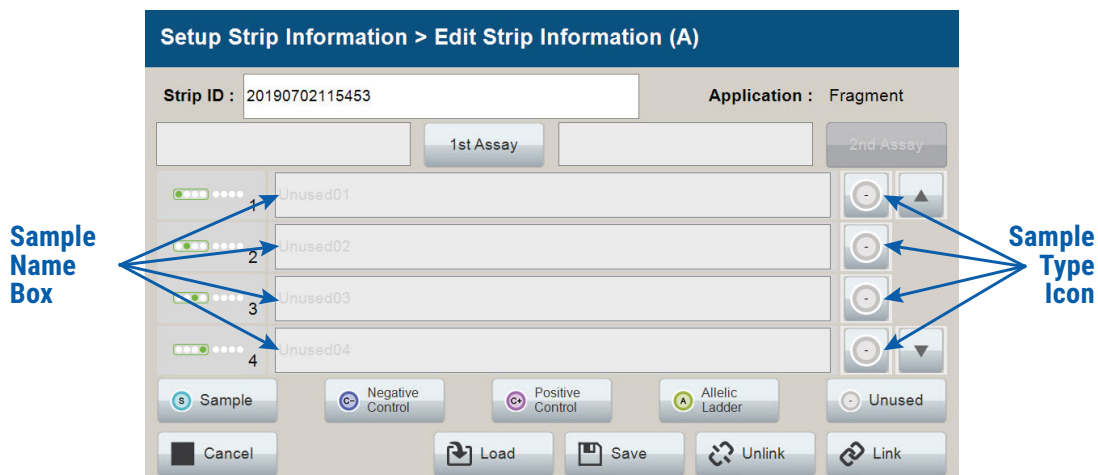

Figure 60. 'Edit Strip Information' screen.
- b. The 'Setup Strip Information' screen is divided into two sections: Sample information and Strip ID. You can enter sample names for samples in a strip by selecting the icon indicating the lane (A, B, C or D) that corresponds to your samples' strip position within the sample cartridge. This opens the 'Edit Strip Information' screen (Figure 60) for the selected lane.
After selecting the desired lane (A, B, C or D) on the 'Setup Strip Information' screen (Figure 59), the 'Edit Strip Information' screen (Figure 60) displays fields for defining the Strip ID, run assay, sample name and sample type for that lane. Each well in the strip is represented along the left side of the screen. The first injection set of the strip (wells 1–4) is displayed on the screen. You can use the arrows on the right side of the screen to scroll to the second injection set (wells 5–8). Strip information can be manually entered into this screen as described below or loaded/imported from saved records (see Sections 5.3.3–5.3.4).